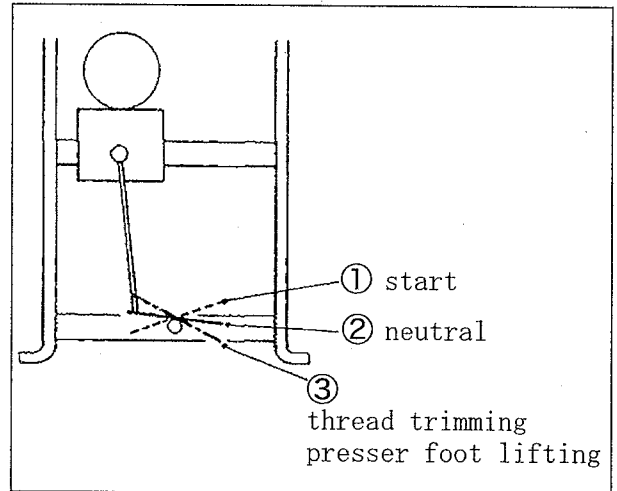

Fig. 1-5
- (1) Heel back the pedal to raise the presser foot.
- (2) Place the material under the presser foot and toe down the pedal. (Fig. 1-5 ①)
- (3) Release the pedal. (Fig. 1-5 ②)
- (4) Heel back the pedal. (Fig. 1-5 ③)
- (5) Release the pedal. (Fig. 1-5 ②)